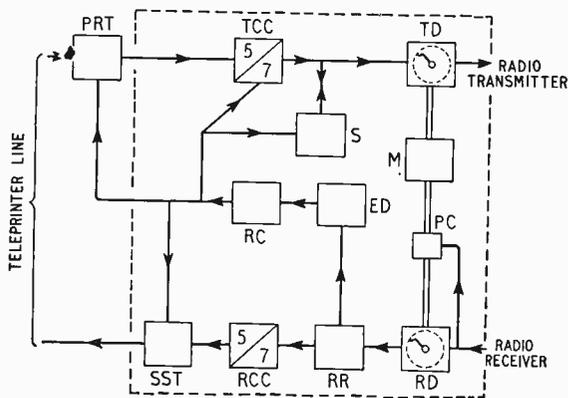

Fig. 1. Van Duuren system of error correction by automatic repetition.
Error-correction by Automatic Repetition.—Van Duuren also conceived the idea of error-correction by repetition of the faulty permutation from the transmitter when an error is detected by the receiver. The basic outline of his "teleprinter over radio (TOR)" system, which provides a means for reliable communication between teleprinter systems over a radio circuit, is shown in Fig. 1. The teleprinter signals are received by a receiving reperforator-retransmitter (PRT) which records them on a perforated tape which is then read into the TOR at the correct time interval. The code signal is presented in parallel form to the code-converter (TCC) which comprises a relay switching system. The resultant 7-unit code permutations are transmitted sequentially by a mechanical distributor (TD) driven by a synchronous motor (M) fed from a stable-frequency source of power. The 7-unit permutations are also stored for a period (as will be explained later) as charges on a bank of capacitors, a series of banks (S) being switched in sequence by relays so that several characters may be stored.